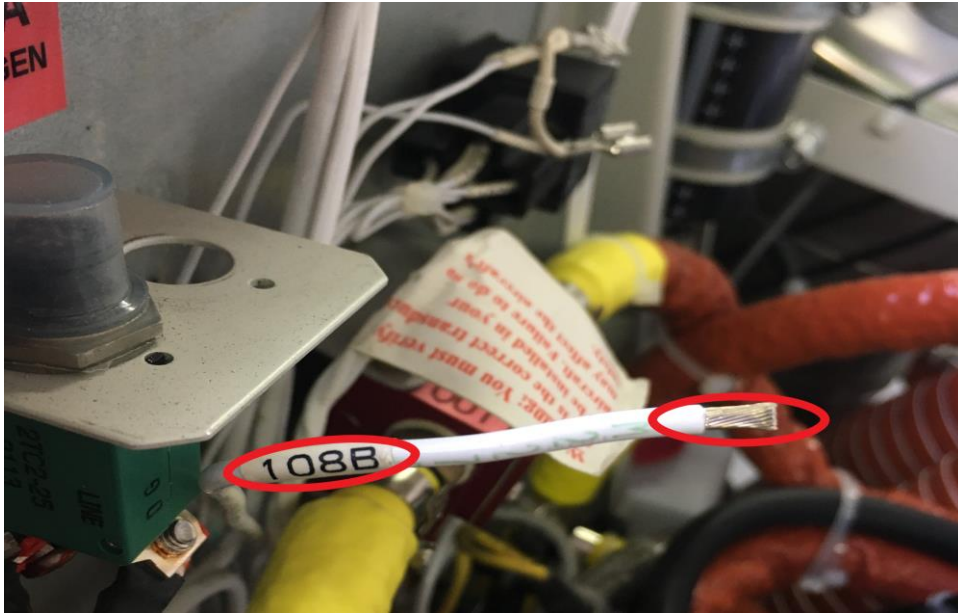

Fig. 13: Marked wire
11) Remove the end of the insulation on the wire marked 108B (See Fig. 13)